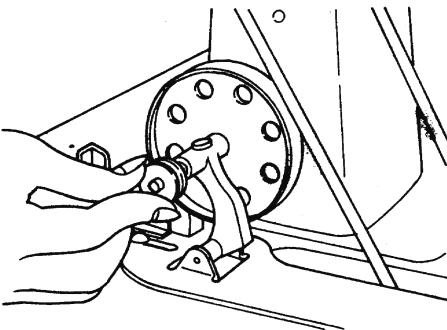
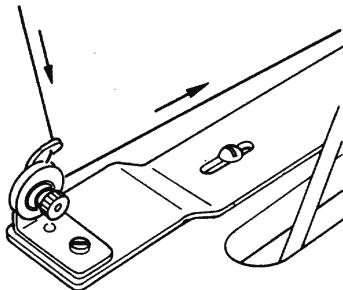
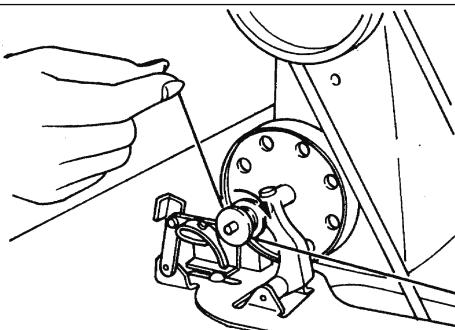
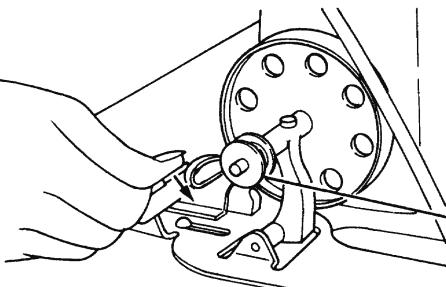

Fig. 19 ① Inserting the bobbin to the pulley shaft
Fig. 20 ② Between the tension discs
Fig. 21 ③ Wind it around the bobbin
Fig. 22 ④ Knock down the trip latch
① First, insert the bobbin into the pulley shaft as far as it goes. (Fig. 19). ② Pull out the thread from the thread spool, pass it through the eyelet of the thread tension bracket, wind it from the opposite side of the 2 tension discs toward the operator. (Fig. 20). ③ Then wind it 3—4 times around the bobbin from under side. (Fig. 21). ④ If the trip latch is knocked down, forward, with the thumb, the bobbin winder will contact the belt. (Fig. 22).